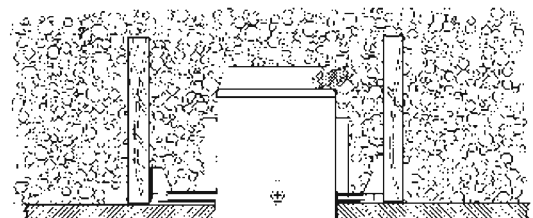

Fig. 2
1. Fixture is designed for installation where it may come in contact with insulation (Fig. 2).
Bar hangers for this luminaire are of interlocking design to allow positioning of housing along entire length of bars (Fig. 2).